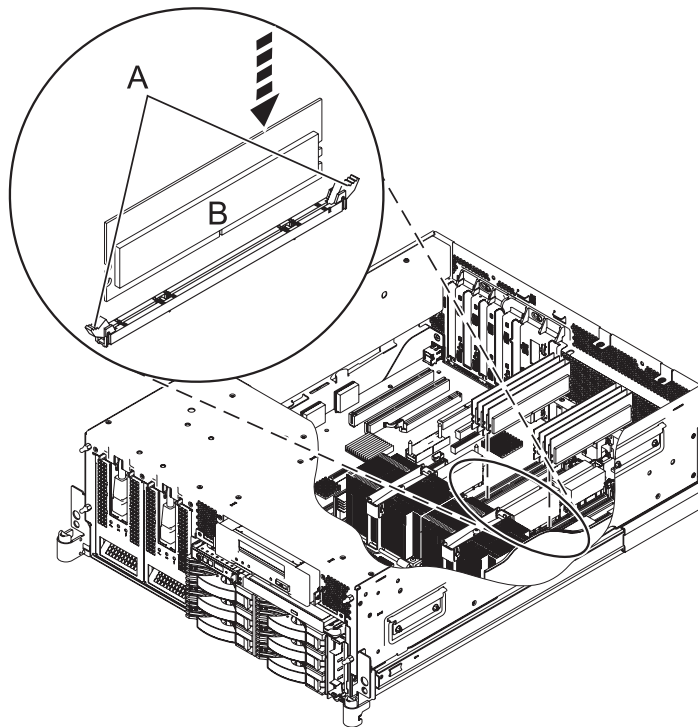

Figure 23. Replacing a memory module
3. Ensure that the connector locking tabs (A) are pushed out in the unlocked position, as shown in Figure 23, before installing a new memory module.
6. Secure the memory module (B) with the locking tabs (A) located at each end of the memory module connector, as shown in Figure 23.